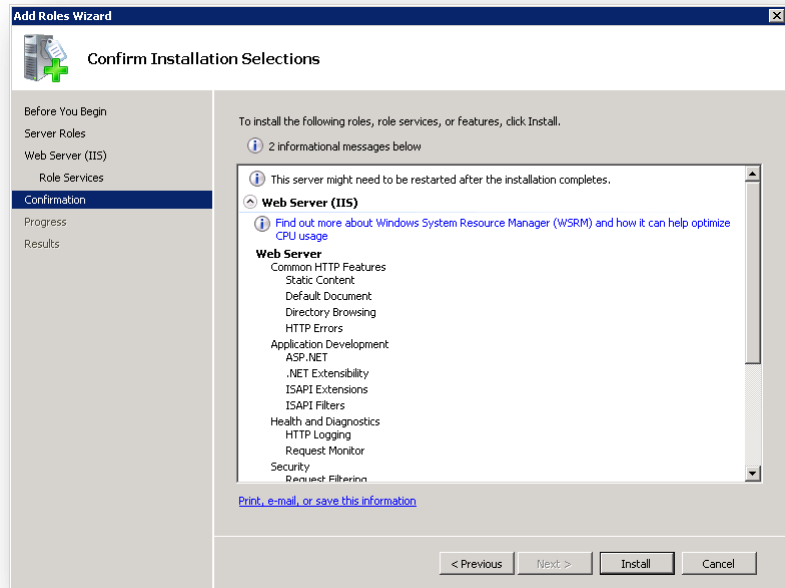

Figure 6 – Add Roles Wizard (Confirm Installation Selections)
10. Click **Install**. See Figure 6.